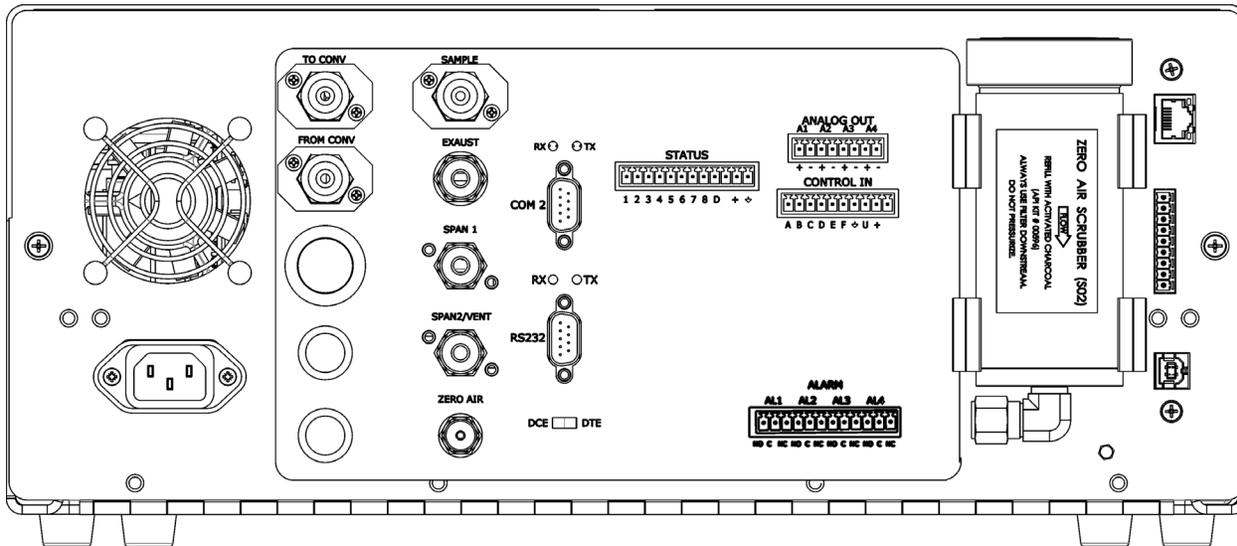
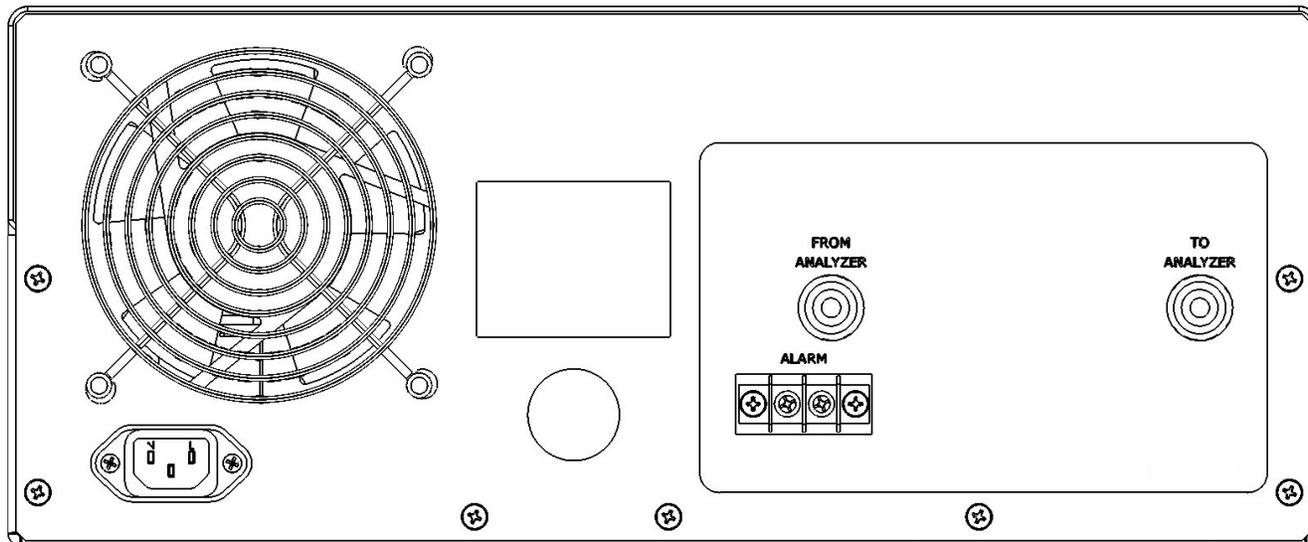

Figure 3-4. T102 Rear Panel (with Zero Air Scrubber attached)
Figure 3-5. 501-TRS Rear Panel Layout
Figure 3-4 and Figure 3-5 supersede *Rear Panel Layout* in the T101 Manual - PN 07266.
Please refer to Figure 3-4 and Figure 3-5 for the locations of the pneumatic ports at the rear panel of the T102 and the 501-TRS instruments.
3. Attach zero air and span gas supply lines as appropriate (see Figure 3-4 and Figure 3-5).